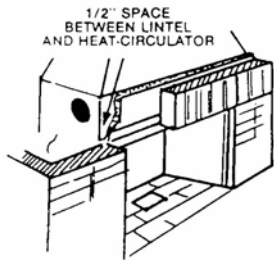

FIG. 5 Setting the lintel
- e) When the top of the fireplace opening is reached, use a metal lintel of adequate strength to support the masonry work above. Set the lintel low enough to conceal the metal apron of the Heat-Circulator Unit. Pack loosely generous quantities of insulation behind and at the end of the lintel. (See Figure 5)